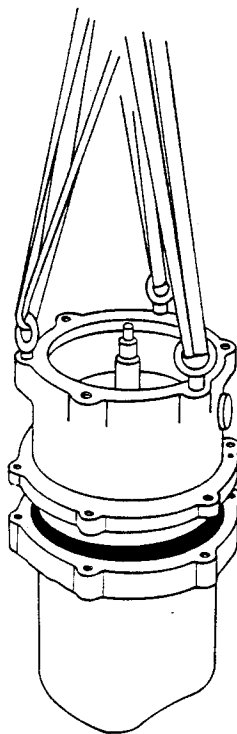

Figure 4. Separating Lower Motor Housing And Assembled Parts From Upper Motor Housing
See Figure 4, and install three 1/2-16 UNC lifting eyes (not supplied) in the tapped holes for the capscrews (87) in the lower motor housing, and hook a three-leg sling to the lifting eyes. Use a suitable hoist to support the pump.